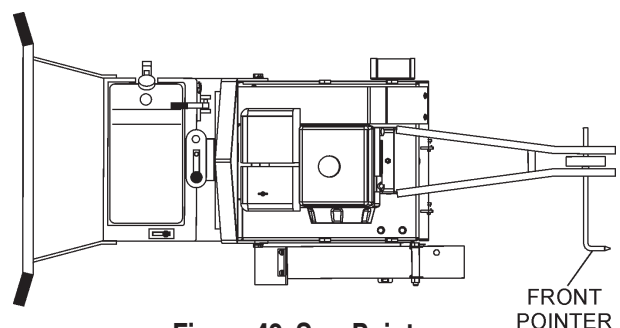

Figure 42. Saw Pointer
- The Cutter 3 CE saw employs a front pointer (Figure 42) that has been precisely aligned with the diamond blade at the factory. Referencing the figure below, accurate tracking is accomplished by referencing the front pointer tip over the cut line. Precise saw direction is accomplished by slight operator pressure against the handle bars.